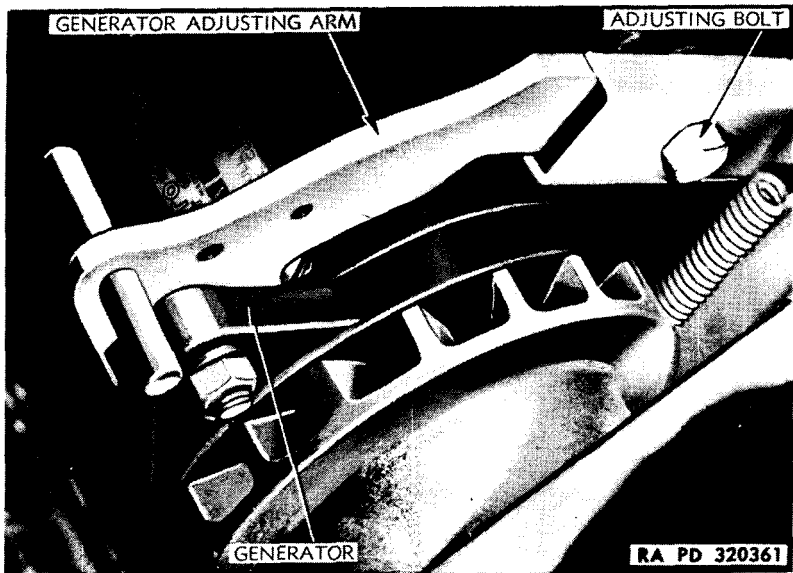

Figure 60—Generator Brace Assembly
b. Adjustment. Adjust fan belt by loosening bolt through generator brace. Pull out on brace and generator, and tighten bolt (fig. 60).
c. Replacement of Fan Belt. Pull up on generator brace (fig. 60), push generator toward engine cylinder block. This will release belt so it can be removed. Replace belt, and pull generator away from cylinder block until arm drops into its original position. Adjust belt tension if necessary (subpar. b above).